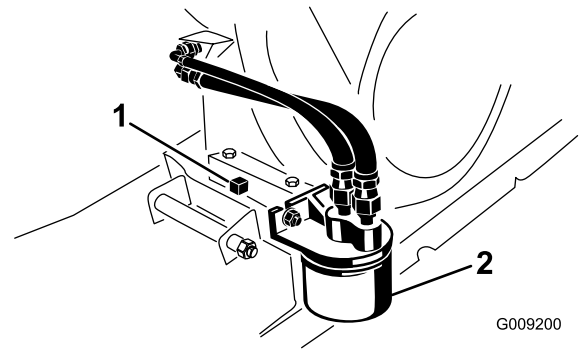

Figure 33
2. Remove the existing oil filter (Figure 33).
4. Thread the new filter onto the filter adapter until the gasket contacts the mounting plate, then tighten the filter an additional 1/2 to 3/4 turn further (Figure 33).
6. Align a drain pan with a 1.8 L (1.9 qt) capacity under the drain plug (Figure 33).
7. Remove the drain plug and seal (Figure 33).